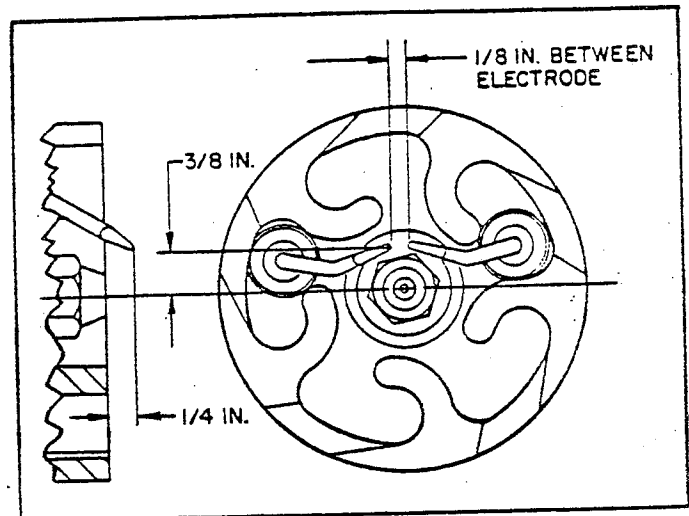
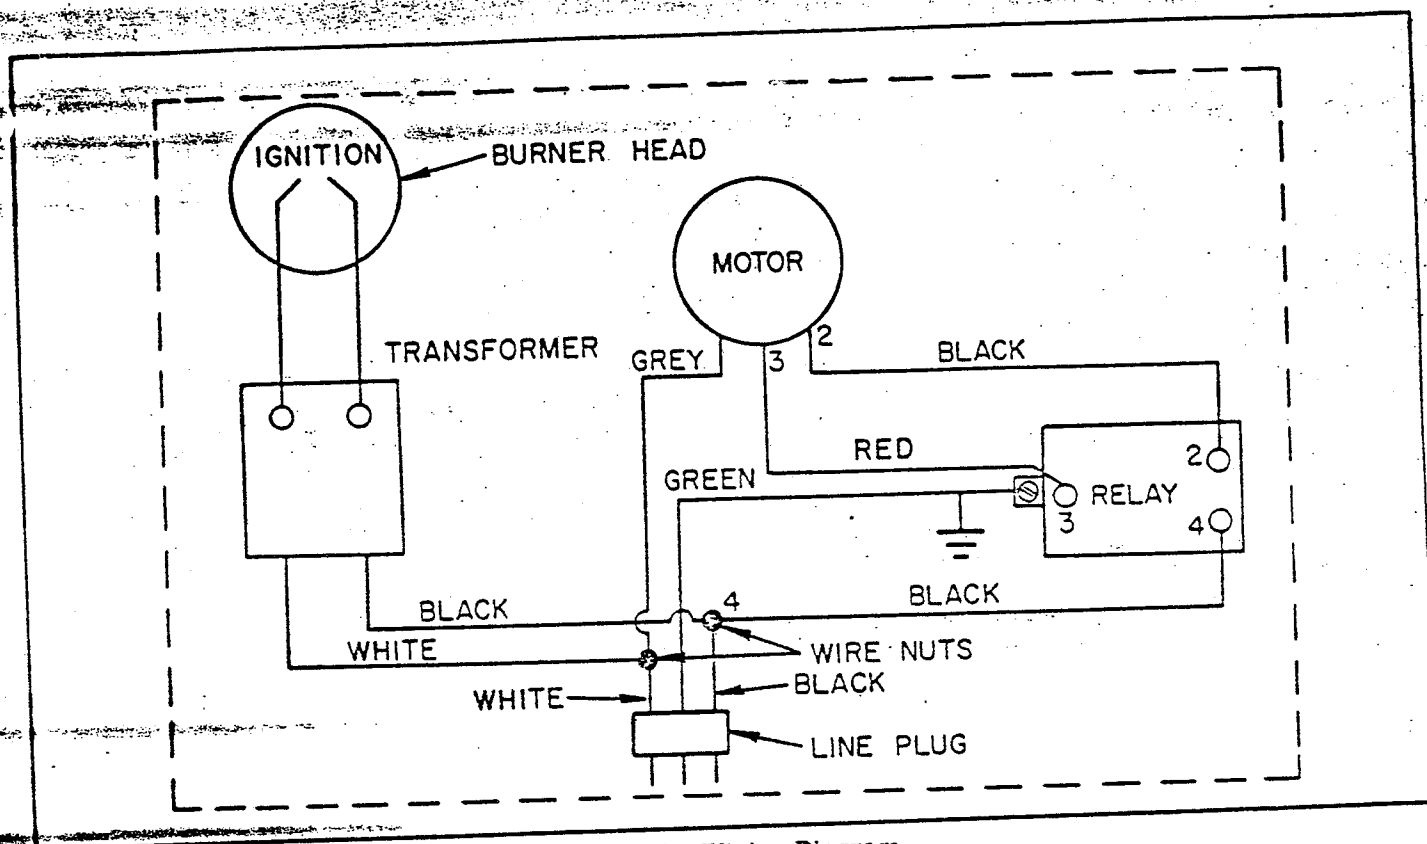
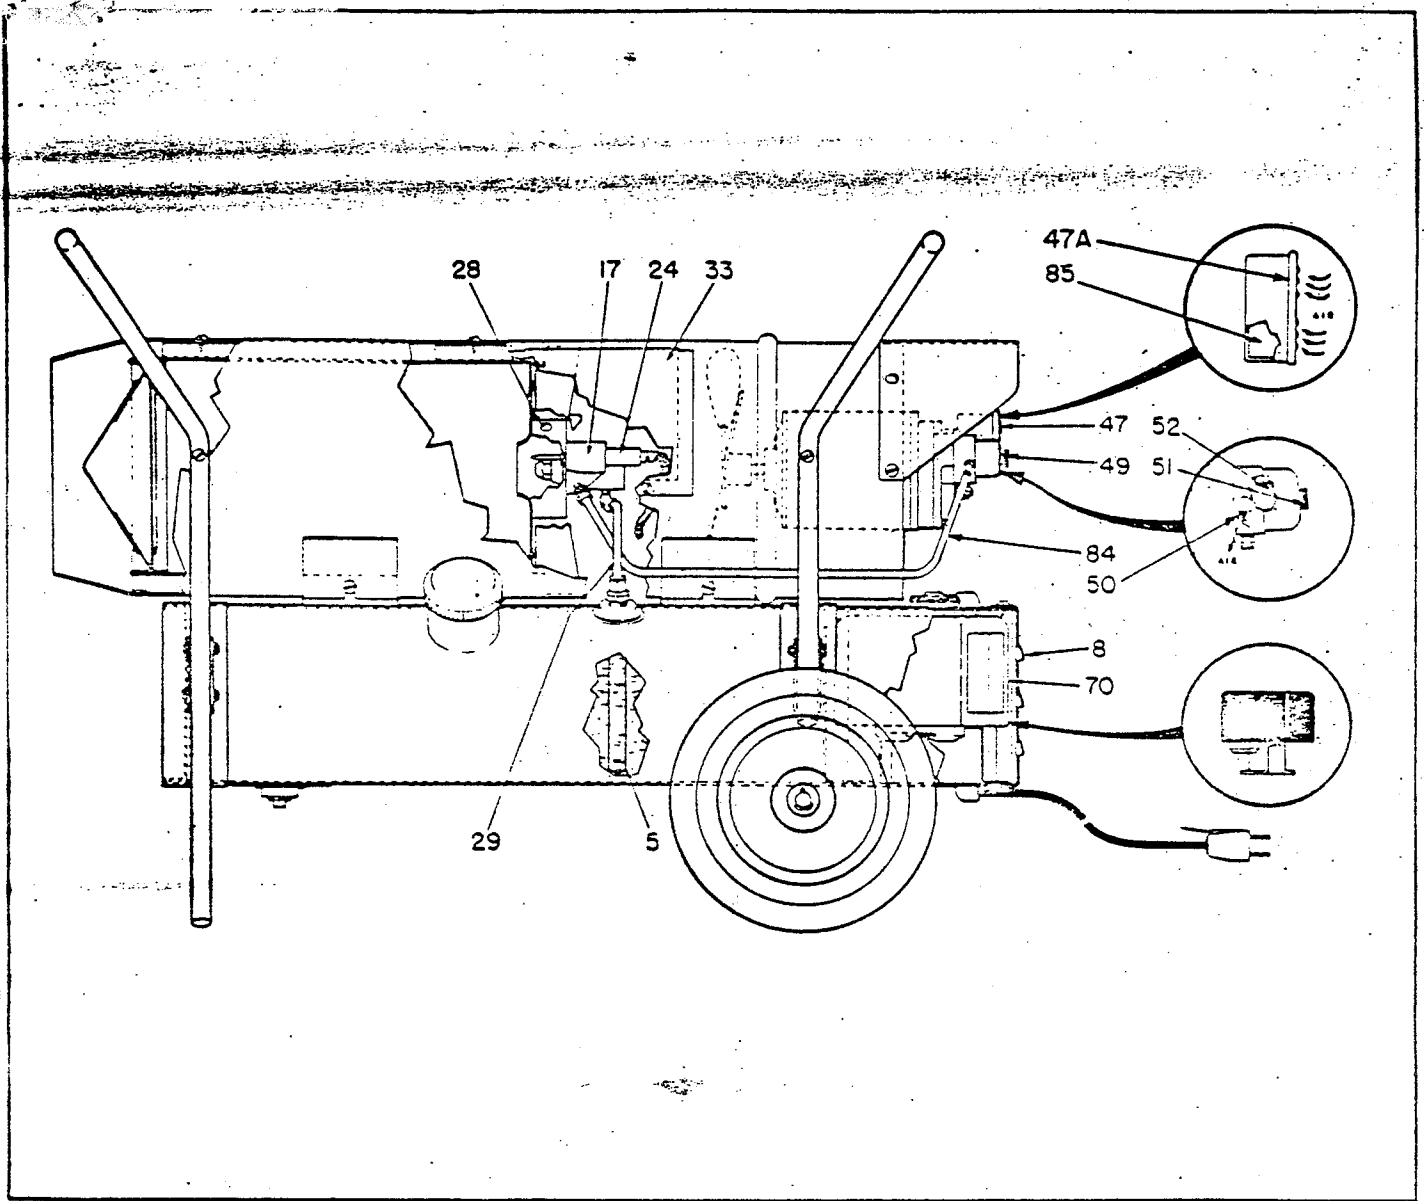

Figure 1. Electrode Settings
Figure 2. Wiring Diagram
Figure 6. Portable Heater - Side View
a. Air intake filter (figure 6, item 47). Remove "snap-on" cover of Ozonaire filter housing. Lift out filter element and wash in hot or cold water and mild detergent, dry thoroughly and replace. Be sure cover is on tight.
b. Output air line filter (49). Remove hex head screw and filter bowl. Lift out filter element, wash in hot or cold water and mild detergent and dry. Replace filter element, bowl and tighten hex head screw securely. Do not attempt to adjust pressure relief valve, as it is capped and preset at factory.
c. Fuel intake filter (5). Remove fuel line (29) from filter, and with wrench back out (counterclockwise) filter. Immerse in clean fuel and rinse several times. Blow out through fitting end. Replace securely and connect fuel line.
Reassemble burner in heater, after checking electrode settings according to manual instructions, Figure 1, making sure burner is snug against combustion chamber backplate. Turn counterclockwise as far as possible and tighten screw (28). Tighten connections on air and fuel lines securely and electrode leads must be inserted until they snap into place. Replace access door.
- b. Electrodes out of position - see Figure 1.
Fuel Line (Figure 6, Item 29)
Air Line (Figure 6, Item 84)
Remove burner assembly from heater (see cleaning instructions, Section III) and remove electrodes (Figure 6, Item 24) by loosening screws (28). Electrodes must be removed from face side of burner as electrode tips would be damaged if forced out from back. Replace electrodes if old ones are cracked or excessively dirty. The metal bands (one for each electrode) must be positioned directly under screws (28) so porcelain will not be damaged when tightened. Otherwise screws tightened directly on electrodes will crack them and tips will not position correctly. Refer to Figure 1 for electrode settings. Replace burner.
Transformer is located in tank extension on rear of heater. Remove cover (Figure 6, Item 8). Before removing transformer, check across electrode terminals with insulated screwdriver when heater is running. If burned out, no arcing will be seen. Disconnect primary leads from wire nuts (see Figure 2) and electrode leads from terminals on bottom of transformer. Loosen two hex nuts from transformer studs on underside of bracket and slide transformer to left. Bracket is slotted. Remove and replace with new transformer. Tighten hex nuts, connect electrode leads, hook up primary leads and be sure cover is fastened securely.
The following is a list of all parts used in the heaters covered by this manual. The only parts recommended for replacement by owner are listed in Figure 6. Check the model decal for the correct model number of your heater. Include model and serial number when ordering parts.